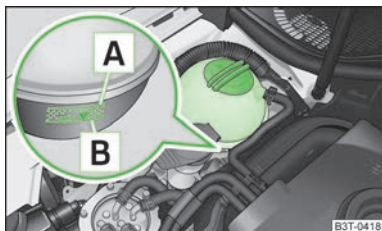

Fig. 120
When refilling, we only recommend you use the same antifreeze written on the antifreeze expansion tank » Fig. 120 on page 143.
- Check the level of coolant in the coolant expansion bottle » Fig. 120. The coolant level when the engine is cold must lie between the [B] (MIN) and [A] (MAX) markings. The level may also rise slightly above the [A] (MAX) marking when the engine is warm.
- Place a cloth over the cap of the coolant expansion reservoir » Fig. 120 on page 143 and unscrew the cap **carefully**.
Do not fill the coolant above the mark [A] (max.) » Fig. 120 on page 143! Excess coolant heats up and then is forced out of the cooling system through the pressure relief valve in the cap.